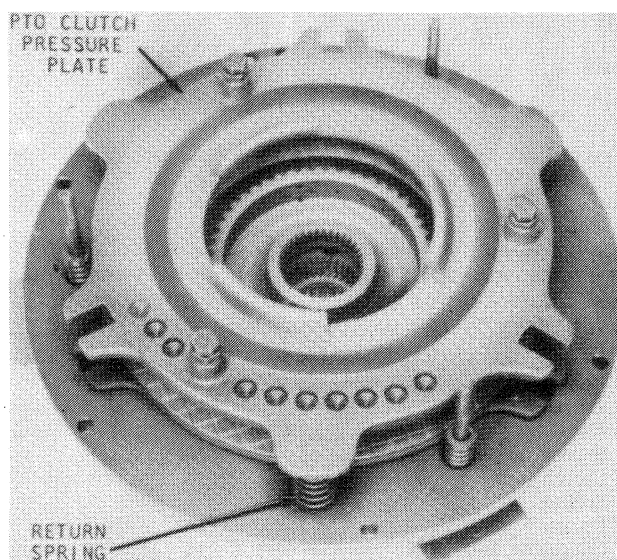

Fig. 106—Assemble pto pressure plate so tabs are over return springs as shown. Be sure notches in plates are aligned.
When reassembling clutch, place pressure plate (6) with friction surface up and insert three operating bolts (7) from the underside so bolt heads are positioned in recesses of plate. Position clutch hub (4) in center of pressure plate. Alternately install traction clutch discs and separator plate(s), beginning with a disc and ending with a disc, and align slots in plates with slots in pressure plate. Install backing plate (1) with spring recesses up. Install pto hub (10) and clutch springs (5), then alternately assemble pto discs and separator plate(s), beginning and ending with a disc. Install pto springs (13) in pressure plate recesses, then install pto pressure plate (14). Make sure slots in separator plates and pressure plates are aligned (Fig. 106). Install clutch cover and operating levers. Tighten lever adjusting nuts just enough to hold backing plate firmly against the clutch cover. This will prevent pto disc from falling off hub during installation.